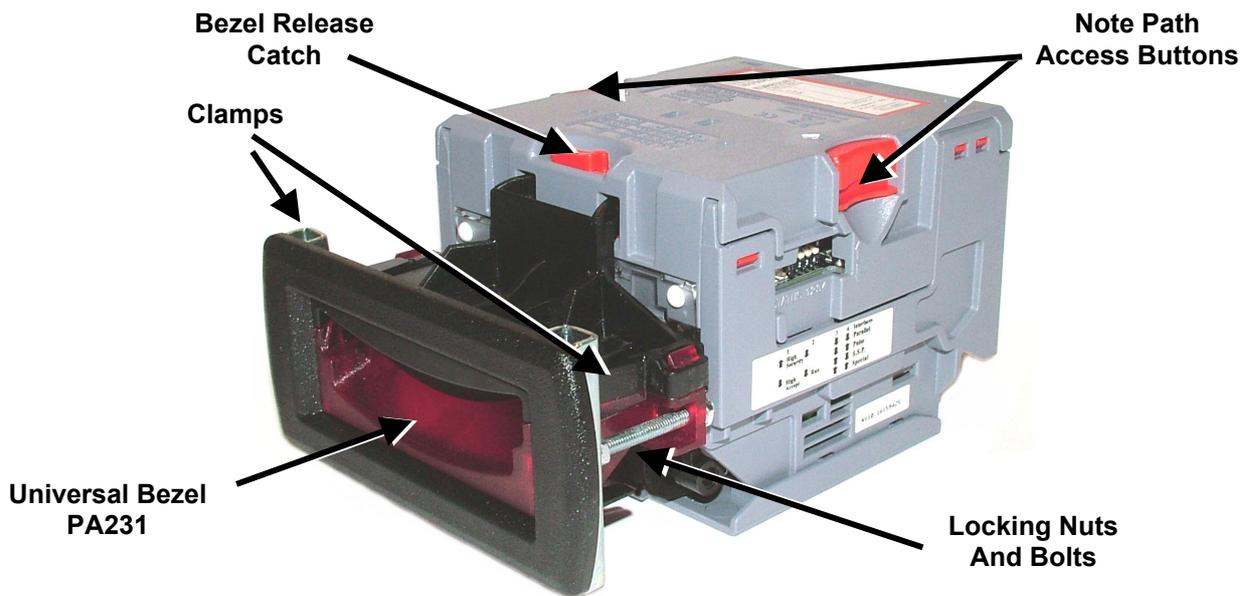

Figure 9 – Bezel and NV10 Installation
The NV10 validator is supplied with the Universal Bezel-PA231 (see figure 9).
- Remove the 4 nuts, 2 metal clamps, star washers and 2 bolts from each side of the bezel as above (see figure 9).
Remove the NV10 from its bezel. Push the 2 red Note Path Access Buttons on the sides of the NV10 downwards and then inwards towards the body of the NV10 (see figure 9) and lift to expose the note paths, place them on a clean dry surface. The note path will now be exposed for cleaning, (see figure 10).